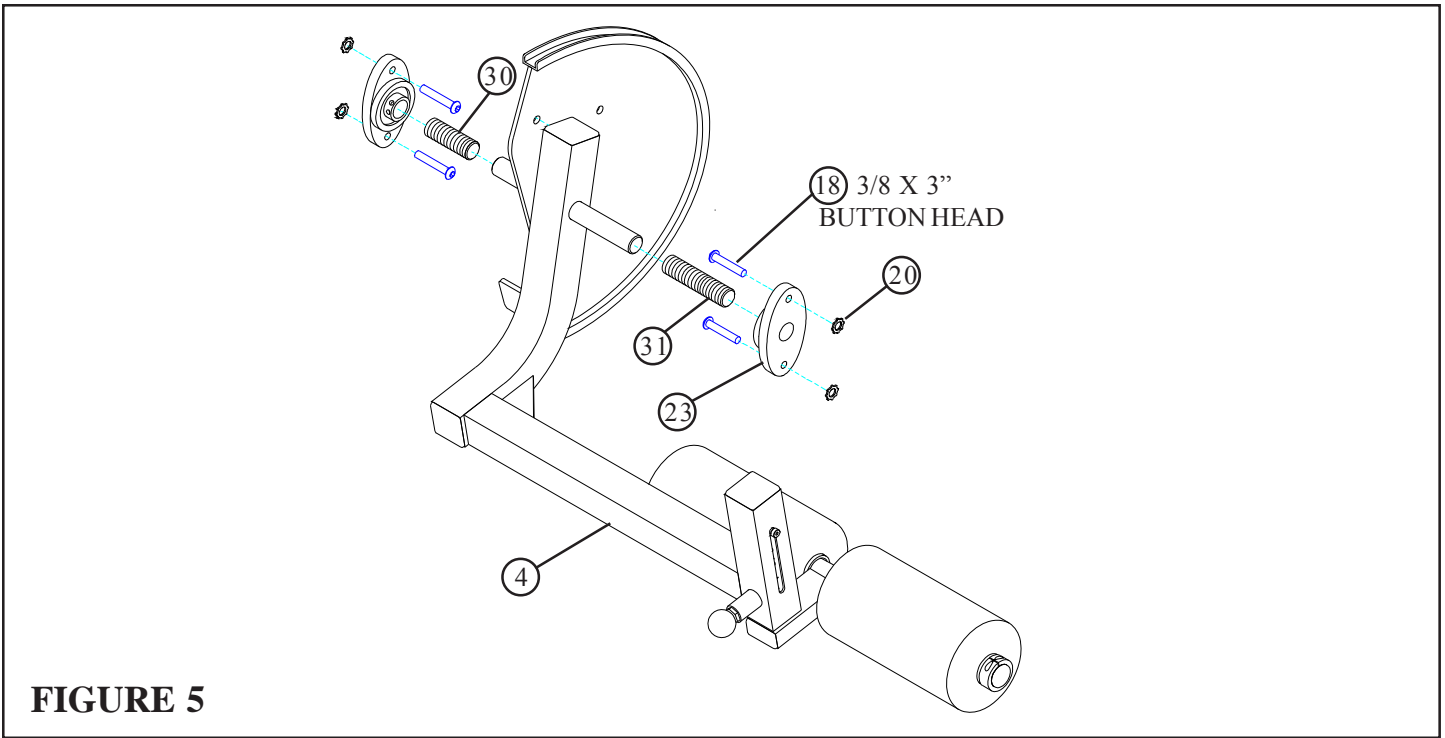

FIGURE 5
- Slide one 2" ACCORDION SLEEVE (30), one 3" ACCORDIAN SLEEVE (31) and two PILLOW BLOCKS (23) over the shaft of the PIVOT ARM (4) as shown in FIGURE 5.
- Assemble four 3/8 X 3" BUTTON HEAD CAP SCREWS (18) and four STARLOCK WASHERS (20) to the the PILLOW BLOCKS (23) as shown in FIGURE 5